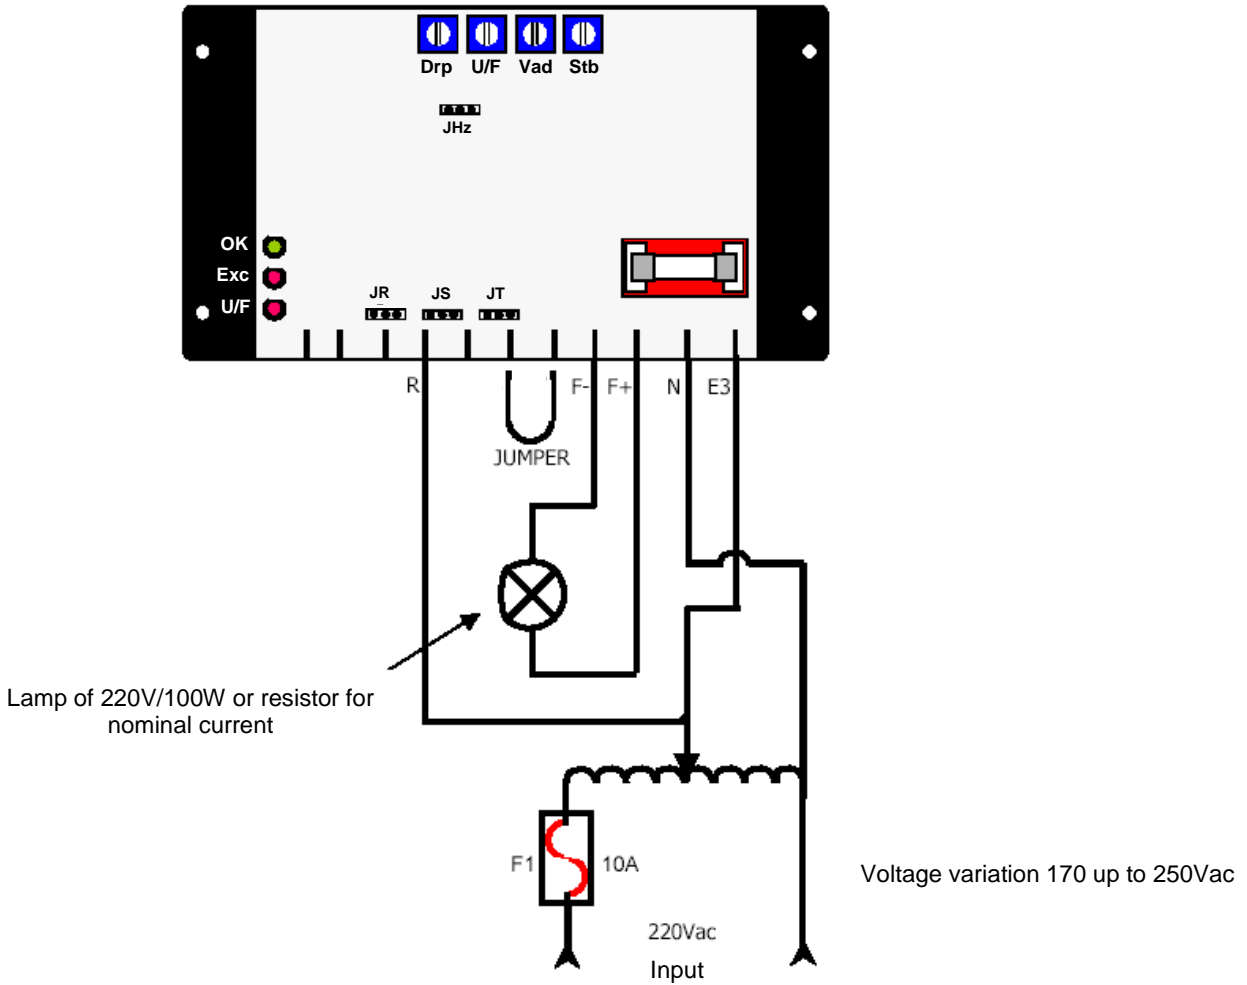

Figure 7: Regulator connection without regulator.
1. The lamp voltage must be the same voltage applied on the input. The fig. 7 shows an example using a 220V/100W lamp.